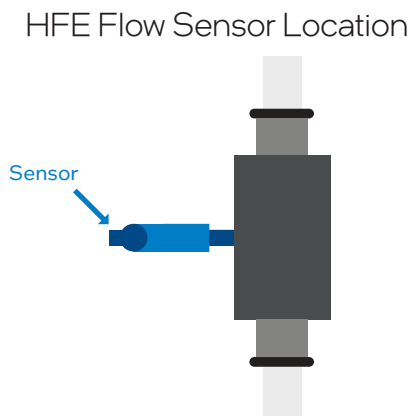

Figure 6. Placement of the HFE flow sensor.
**Solution:** We deployed sensors to constantly monitor HFE flow rate. Figure 6 shows the placement of the sensor.